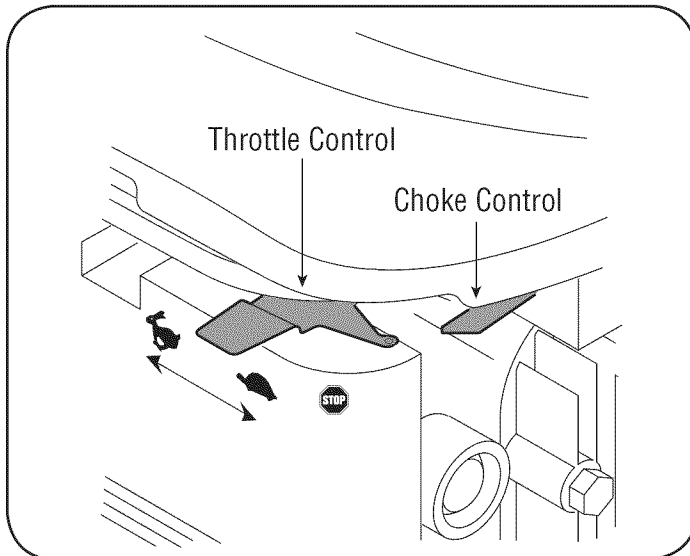

Figure 12
5. Move throttle control to START/RUN (Rabbit)  position. See Figure 12.
6. Move the choke control  toward the throttle control to choke the engine's carburetor. (A warm engine may not require choking.) See Figure 12.